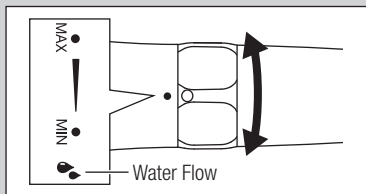

Fig. 8
- The powder spray volume can be adjusted with the Flow Volume Adjustment Ring (Fig. 8). Start by setting it to Min. then adjust according to the application and patient condition.